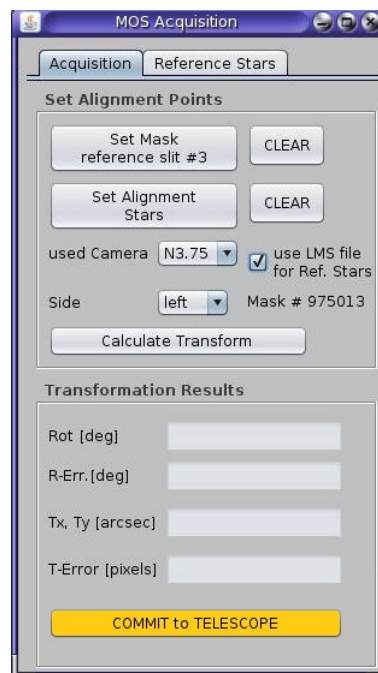

Figure 27: The LUCIFER MOS Acquisition GUI.
- In the MOS ACQUISITION GUI (Fig. 27), select the camera used to take the through mask and press USE LMS FILE FOR REF. STARS
- Press the button SET ALIGNMENT STARS in the MOS ACQUISITION GUI (Fig. 27)